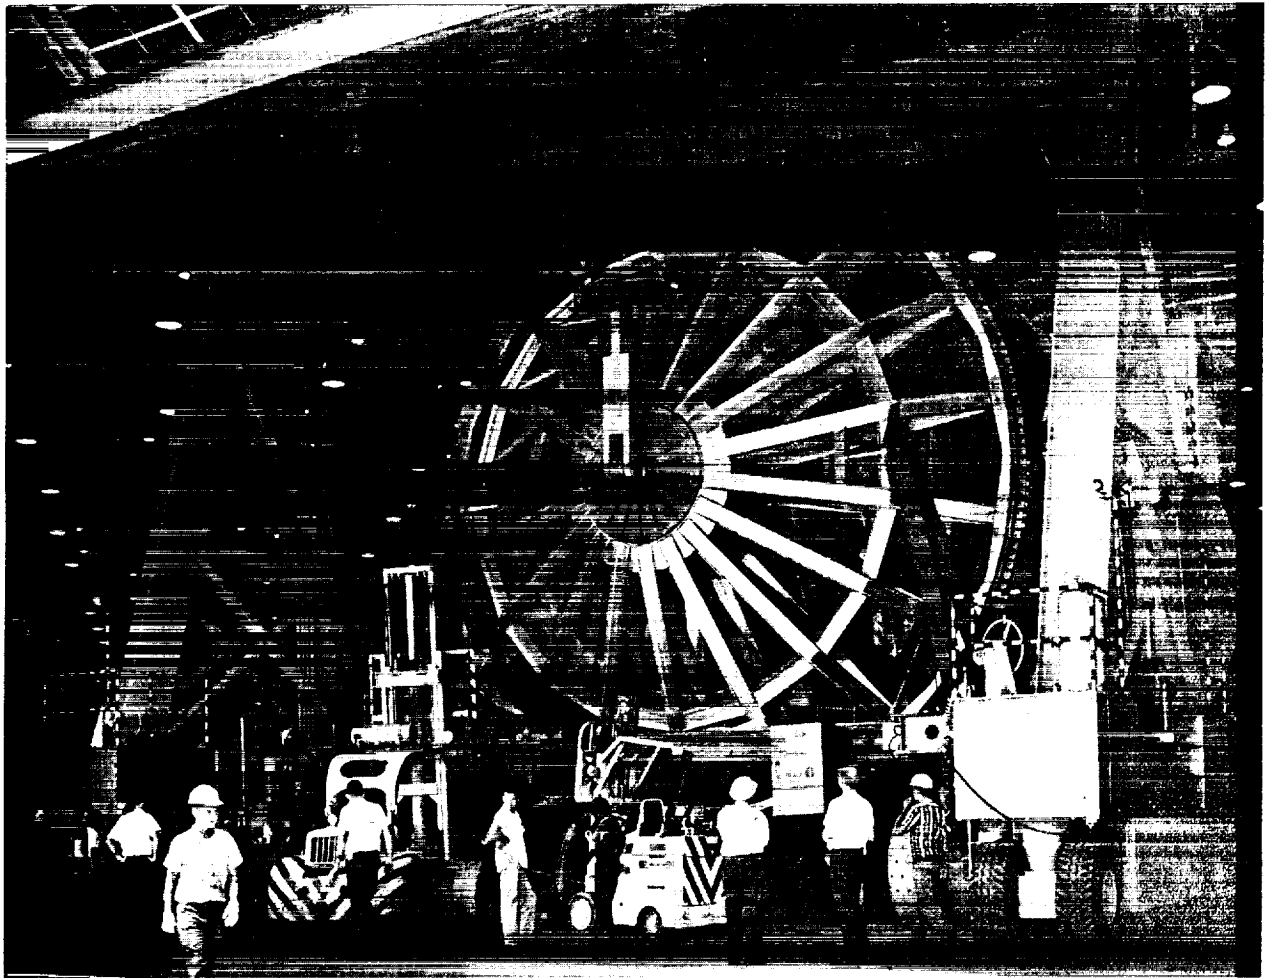

Figure 8-3. S-IC Transfer Mobile Gantry Hoist - Utilization
- aa. Attach gantry hoist to forward handling ring lifting eye using spreader bar (MIT27-B470-10000) and linkage (HT3-B470-10000) per figure 8-3.